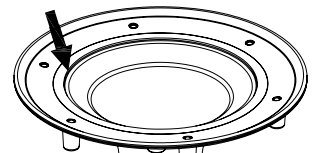

Fig. 2
4. Cut the membrane as per the roof membrane manufacturer's requirements in the center of the clamping collar. Continue to cut outward until the precast cutting edge in the drain body is located (Fig 2). Once precast edge is found, cut out circular section of membrane by following the cutting edge. **Warning: Failure to properly cut the membrane along the prescribed cut edge of the drain body may result in decreased flow performance of the roof drain.**